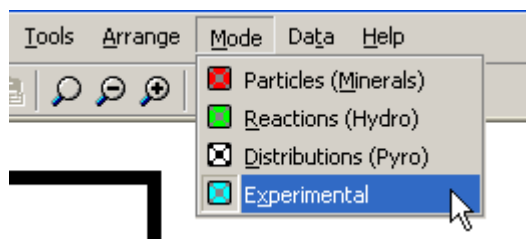

Figure 2. Turning the mode to Experimental.
1. Turn the HSC mode to Experimental (Figure 2)